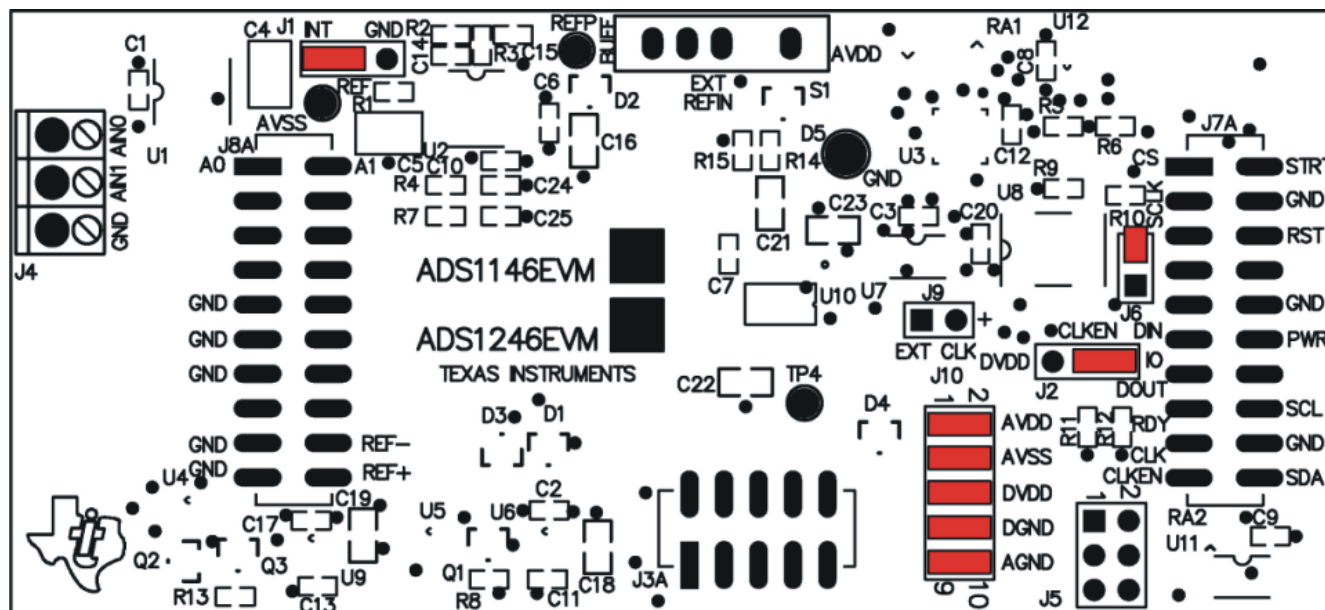

Figure 3. ADS1246EVM Default Jumper Locations
Figure 3 shows the jumpers found on the EVM and the respective factory default conditions for each.
- Step 4. Set the jumpers and switches on the ADS1246EVM as shown in Figure 3 (note that these settings are the factory-configured settings for the EVM).